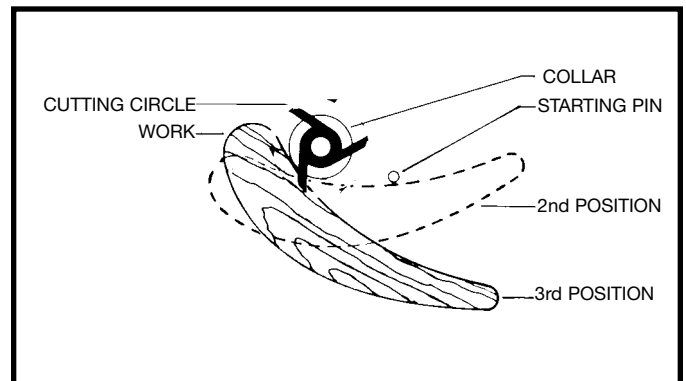

Fig. 47
3. After the cut has been started, the work is swung free of the starting pin, and rides only against the collar as shown in the third position Fig. 47. **ALWAYS FEED AGAINST THE ROTATION OF THE CUTTER.**